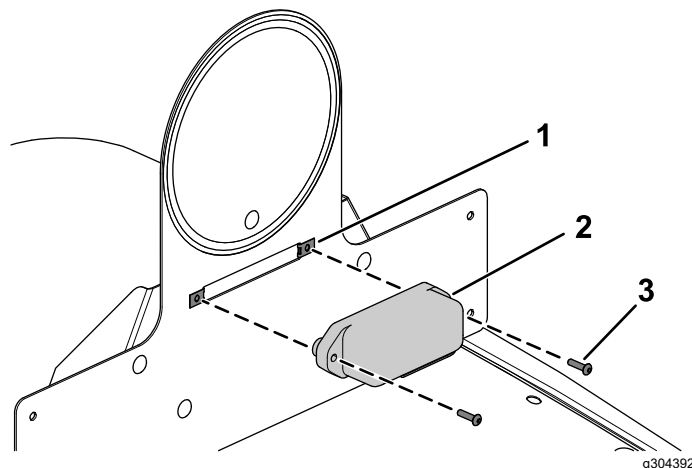

Figure 39
11. Connect the wire harness to the plate light (Figure 39).
12. Secure the plate light to the assembled speed-plate mount using the 2 speed nuts installed in Figure 26 and 2 button-head bolts (#10 x 3/4 inch) as shown in Figure 39.